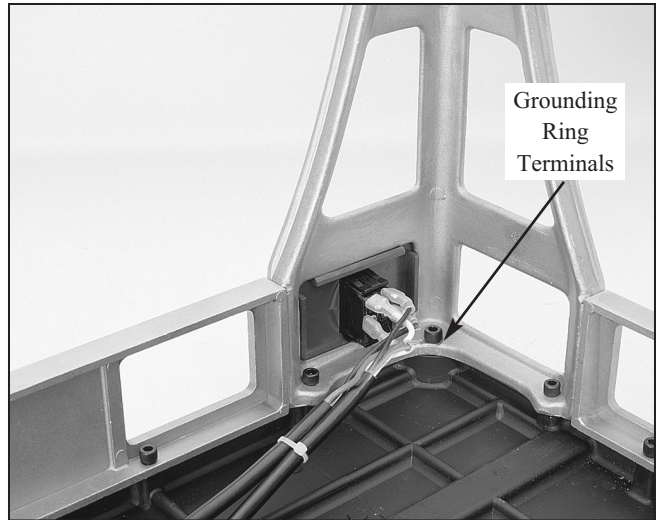

Figure 10. Attaching the grounding terminals.
Step 2 - The two grounding terminals must be attached to the Rebel® frame. Remove any convenient socket head cap screw attaching the leg to the tabletop. Overlap the two ring terminals connected to the end of the two grounding (green) wires. Insert the socket head cap screw through the ring terminals and re-fasten to the tabletop. **Figure 10.**